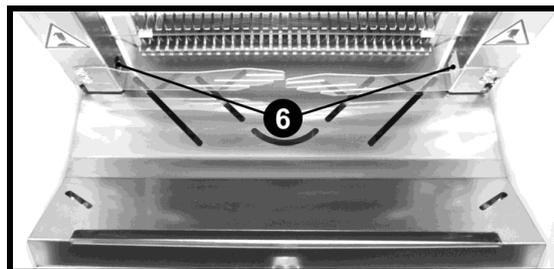

Figure 7
4. wait for the machine to finish the cutting cycle. On the way out the slices are kept relatively compact by the flexible flaps and stop against the edge of the exit surface; they can now be removed. Removing the slices frees the beam of the photocell, ref. 6 Figure 7, which enables the return of the bread pusher for a new cutting cycle.